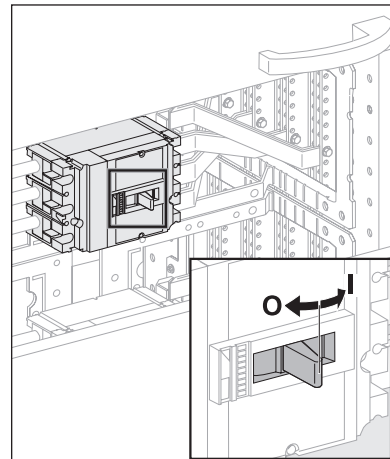

Fig. 12
- The device is controlled by pushing the toggle up, down, right, or left, depending on how the device is mounted and according to the I and O markings engraved on the case (see Fig. 12).